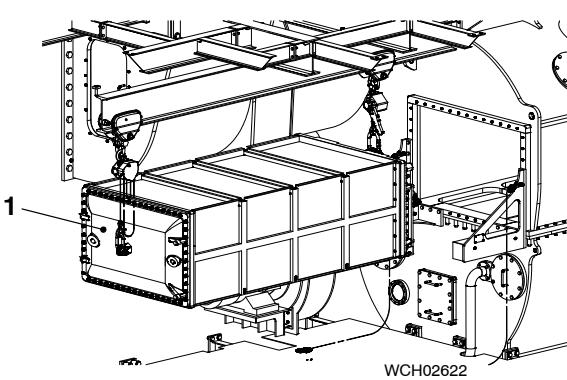

Fig. 7
- 1) Make sure that all the surfaces of the SAC (1) and the related surfaces in the receiver are clean and have no damage.
- 2) Apply a layer of silicon compound to each side of the SAC (1) and the related surfaces in the housing in the receiver.
- 3) Use the tools that follow to move the SAC (1) to the position shown in Fig. 7.